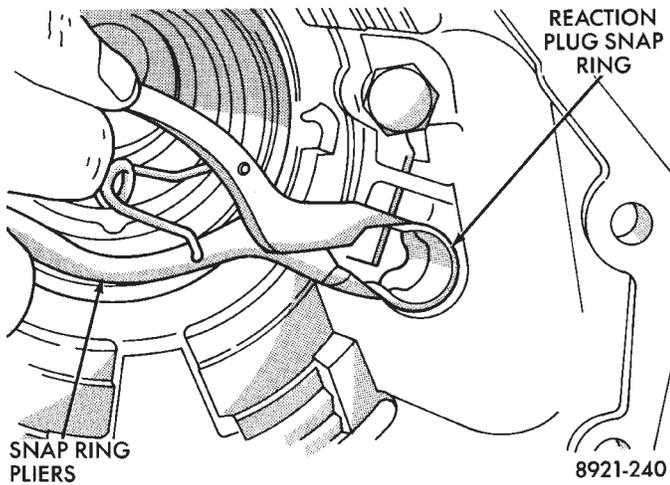

Fig. 254 Reaction Plug And Snap-Ring Installation
(4) Install reaction plug snap-ring (Fig. 254). **Compress snap ring only enough for installation; do not distort it.**